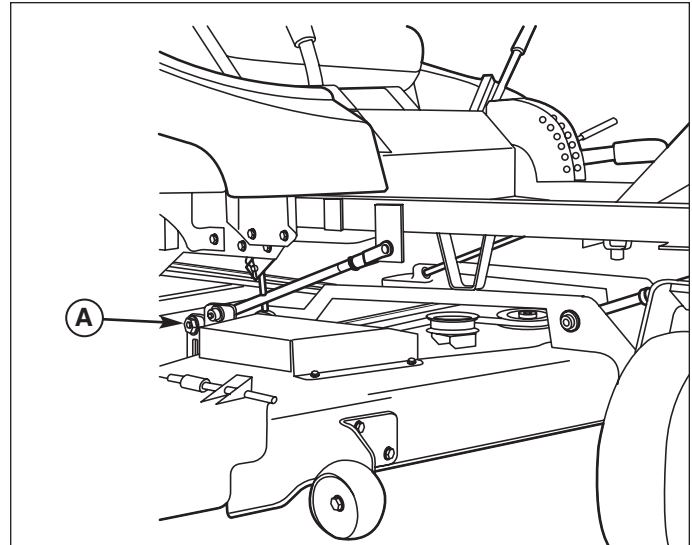

Figure 31. Roller Bar Leveling
5. Locate the roller bar leveling eccentric and locknuts (A, Figure 31). Loosen the locknut and turn the eccentric to raise or lower a side. When the correct level is achieved, hold the eccentric with a wrench and tighten the locknut. Repeat step 4 if necessary.